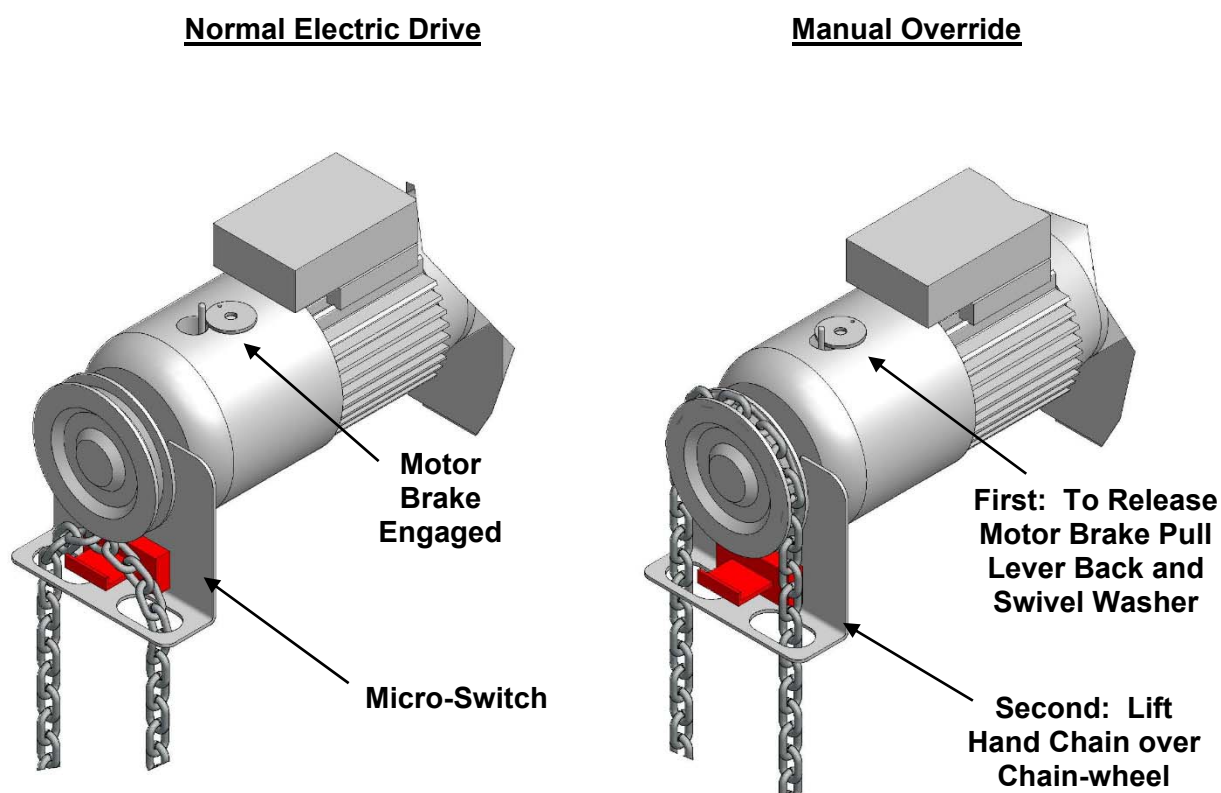

Figure 31
10.2 Electric power or motor failure: To manually operate the door first release the Motor brake before lifting the Hand Chain over the Chain-Wheel as shown in Figure 31. Pull the chain to operate the door. With the chain off the Micro-Switch the motor will not operate.